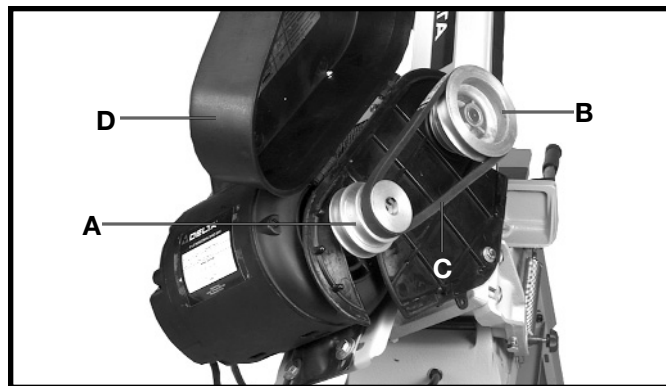

Fig. 30
When changing speeds, release belt tension and open belt and pulley guard cover (D) Fig. 30. Speed rates of 80, 120, and 200 feet per minute are available with your band saw. When the belt is on the largest step of the motor pulley (A) Fig. 30, and the smallest step of the gear box pulley (B) the blade speed will be 200 feet per minute. When the belt is on the smallest step of the motor pulley (A) and the largest step of the gear box pulley (B) the blade speed will be 80 feet per minute. When changing speeds, first release belt tension. After the desired speed is obtained, adjust belt tension and close belt and pulley guard cover (D).